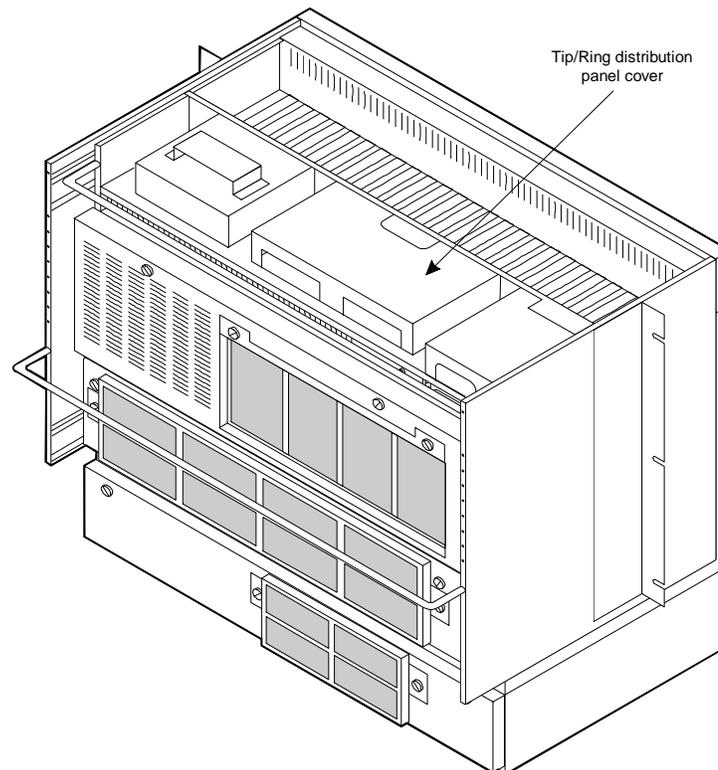
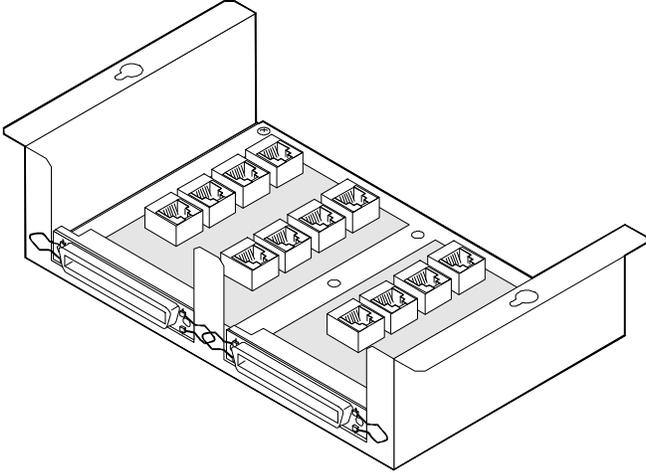

Figure 10-10. Where to Attach the MAP/100C Tip/Ring Distribution Panel(s)
Figure 10-11. MAP/100C Tip/Ring Distribution Panel Assembly
Figure 10-10 shows where to attach the distribution panel(s) to the MAP/100C. Figure 10-11 shows the Tip/Ring distribution panel assembly.
6. Loosen the two screws that secure the distribution panel cover. This cover is located in the center on the top of the MAP/100C (Figure 10-10).